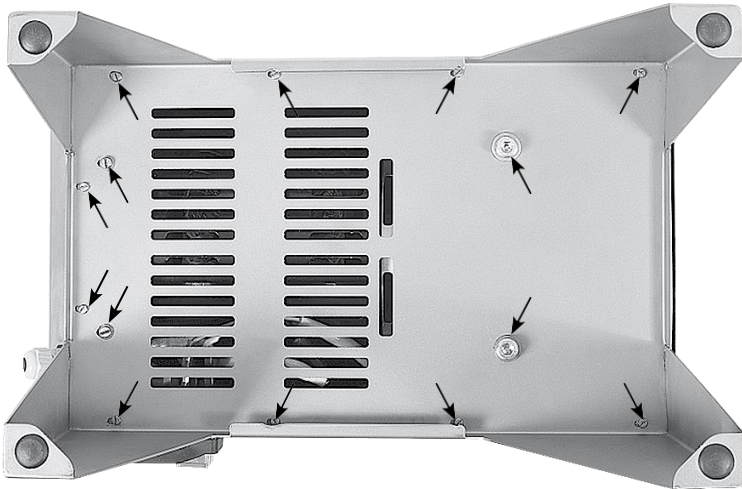

Fig.7. Disassembly of the base
- 1) Position the drive unit with the feet facing up (Fig. 7).